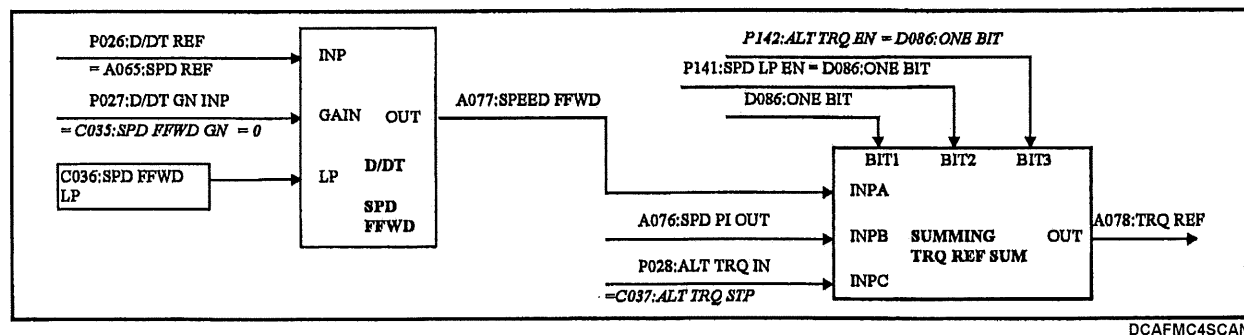

Figure 3-4. 692002.V21 Software Block Excerpt
- 18) The 3-CT feedback configuration wiring diagram and jumper settings for the A20651 SCR Firing Adapter are shown in Figure 3-8. Check the polarity of the feedback pulses across each burden resistor with the polarities indicated for each resistor in Figure 3-8. Example: Positive pulses (Figure 3-4) should be observed for a burden resistor when the scope probe is connected to the resistor + and scope ground to the resistor -. Confirm these pulses at J1 of the SCR Firing Adapter. The burden resistor polarities are most easily identified here.
- 21) The 2-CT feedback configuration wiring diagram and jumper settings for the A20651 SCR Firing Adapter are shown in Figure 3-9. Check the polarity of the feedback pulses across each burden resistor with the polarities indicated for each CT with the polarities indicated for each CT in Figure 3-8. Example: Positive pulses (Figure 3-4) should be observed for a CT when the scope probe is connected to the CT + and scope ground to the CT -. Confirm these pulses at J1 of the SCR Firing Adapter, points (13-11) for CT1 and J1(13-15) for CT2. The C polarities are most easily identified here.